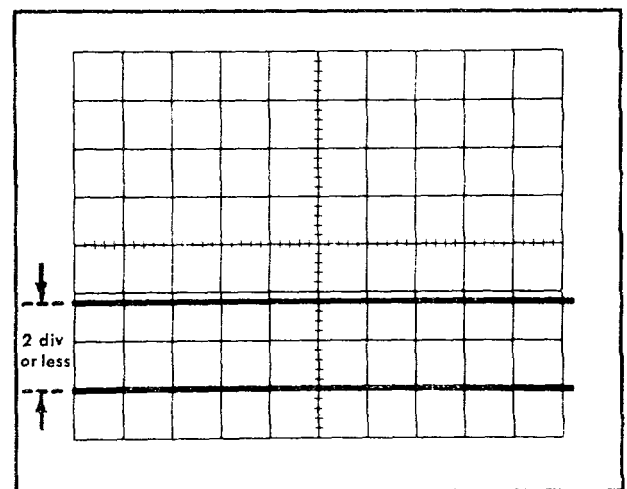

Fig. 5-17. Checking the VARIABLE control 2.5-to-1 uncalibrated range.
b. When the VARIABLE control is set fully counterclockwise, check the amplitude of the display. It should be 1.6 div or less (see Fig. 5-17). This indicates a ratio of 2.5 to 1 or higher. For example, the amplitude of the display shown in Fig. 5-17 is 1.8 div which indicates a ratio of 2.78 to 1 ( $5 + 1.8 = 2.78$ ) which is higher than 2.5 to 1.